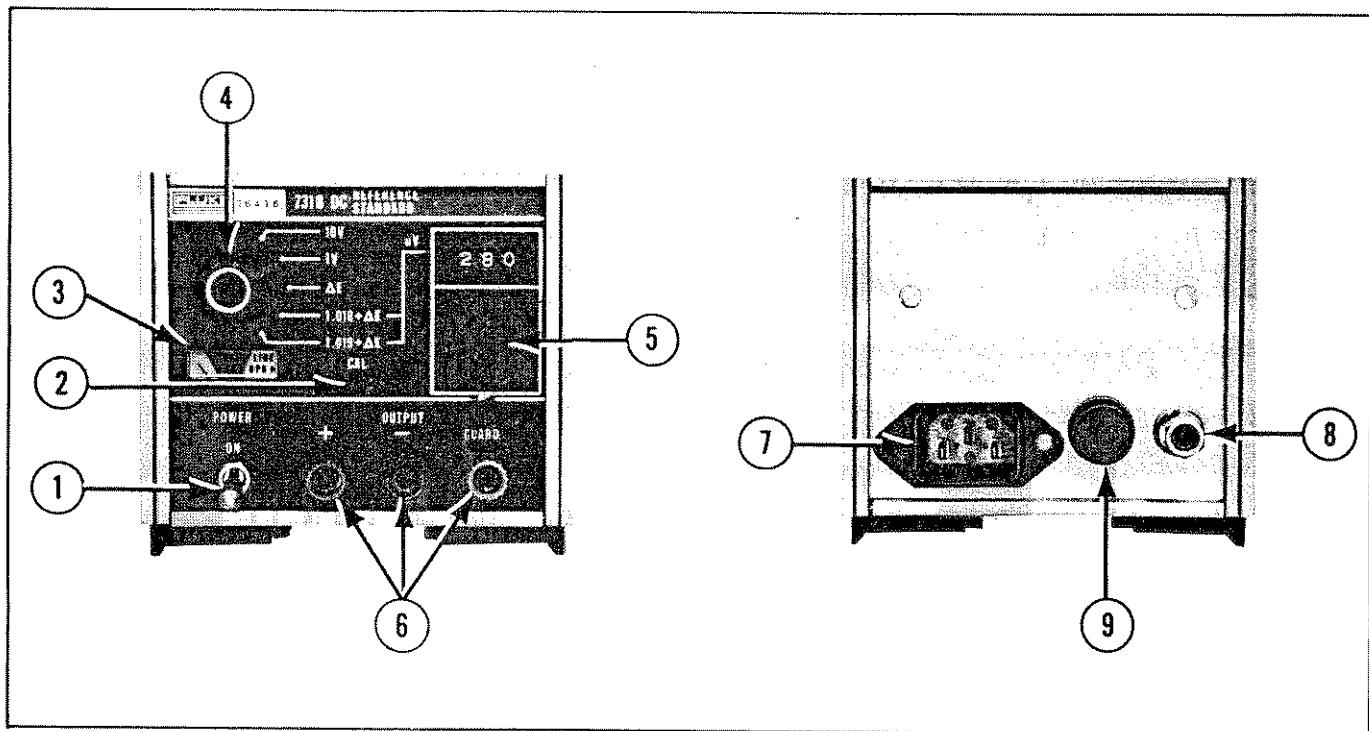

Figure 2-1. 731B CONTROLS, INDICATORS AND CONNECTORS
- 2-12. The 731B controls, indicators and connectors are shown in Figure 2-1, and described in Table 2-1.